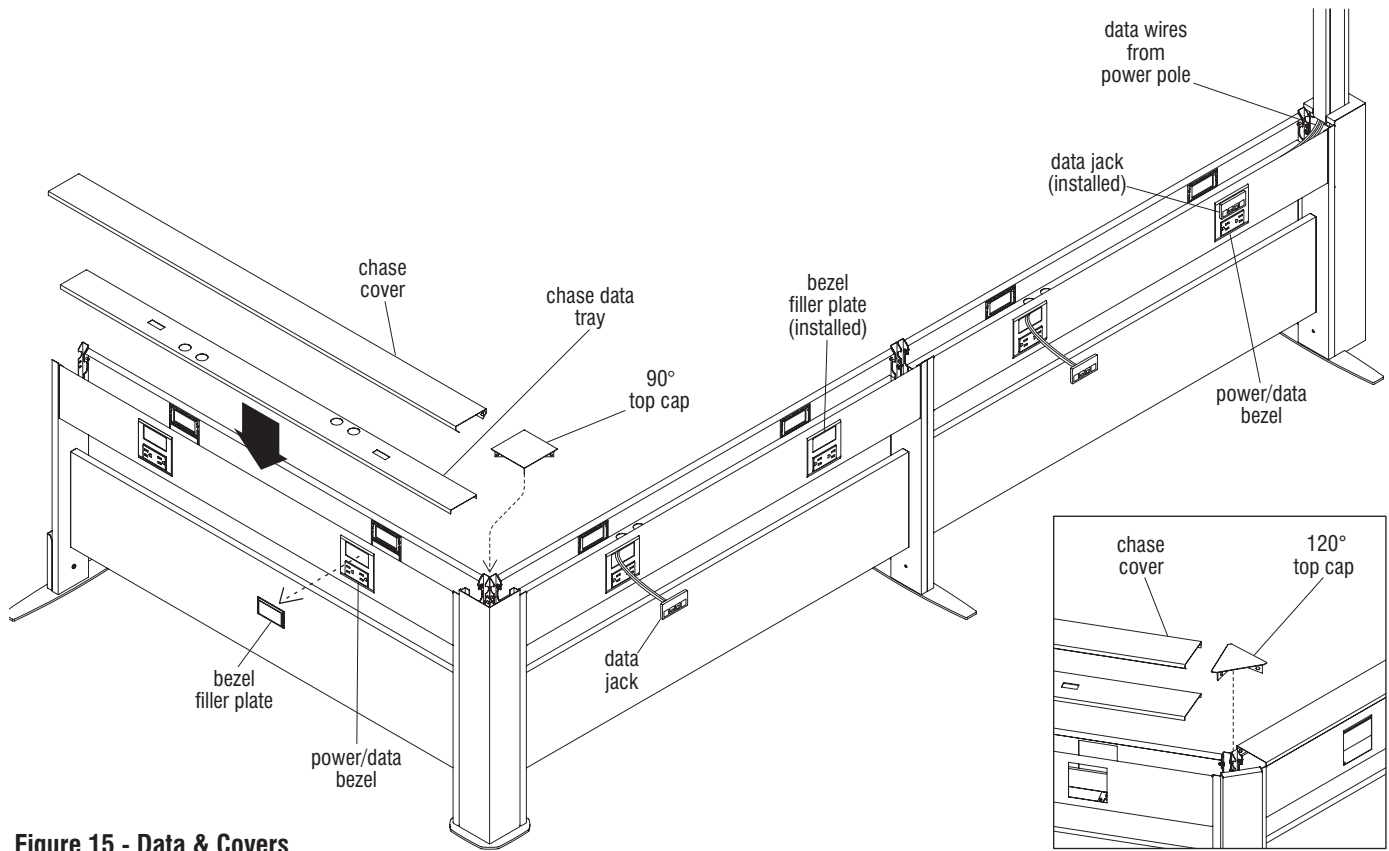

Figure 15 - Data & Covers
1. Per the space-planning layout, determine data jack locations required in chase assemblies and remove bezel filler plates (if not previously removed) from installed power/data bezels (Figure 15).
illustrated and set a tray onto the rigid wireway inside the trough of each chase assembly (Figure 15).
3. Route data wires from their source (power pole shown) and along the top of installed power/data dividers to desired jack locations (Figure 15).
5. After all data connections have been made, the chase covers and corner/intersection caps can be snapped onto the top of each chase assembly (Figure 15 & Detail H).